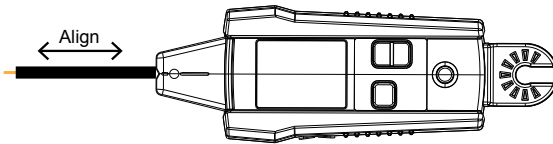

Figure 3.1f
3. For best results while tracing energized wires, align groove on tip sensor with wire direction as shown (see figure 3.1f/g). Signal may be not detected if not properly aligned. To verify wire direction, periodically rotate AT-6000-RE 90 degrees. Signal strength will be the highest when wire is aligned with Tip Sensor groove. Depending on the detected signal, the AT-6000-RE automatically switches to either Energized ⚡ or De-energized ⚡ mode, and displays this information on the LCD. No manual setup is necessary.